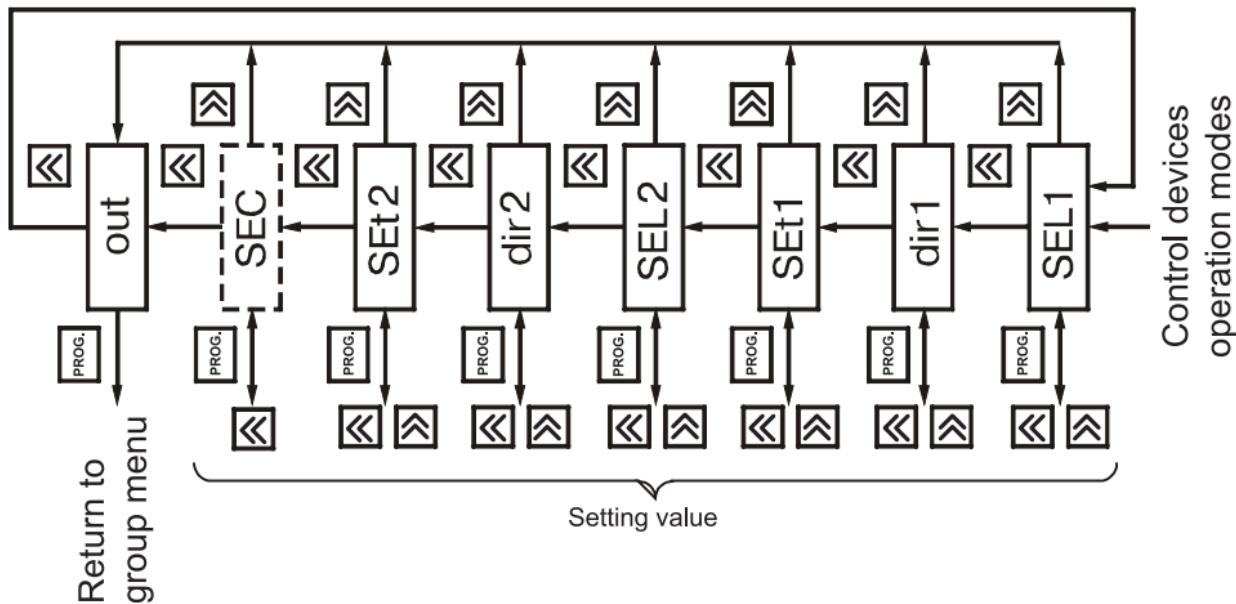

Figure 26.
6.1.9. «**GrouP_d**» group (figure 26) contains **SEL1** and **SEL2** parameters that define input values for LD1 and LD2, **SEt1** and **SEt2** parameters that define their operation logic and **dir1**, **dir2** parameters that define count direction at which output devices must act.